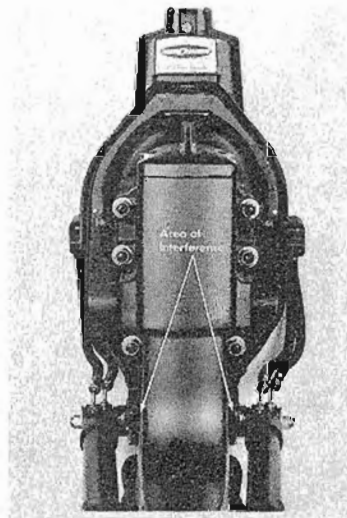

Figure 1. Gimbal Ring Flange
3. Check gimbal rings on MerCruiser 120 and 160 stern drive units; some had a misalignment at the hinge pin hole. This could cause drive shaft housing to contact gimbal ring flange (Figure 1) and prevent it from returning to "down" position and locking on tilt adjustment pin. Remedy: It may be necessary to remove slight amounts of metal from both gimbal ring flange and drive shaft housing until it returns freely to tilt adjustment pin. (Figure 1)